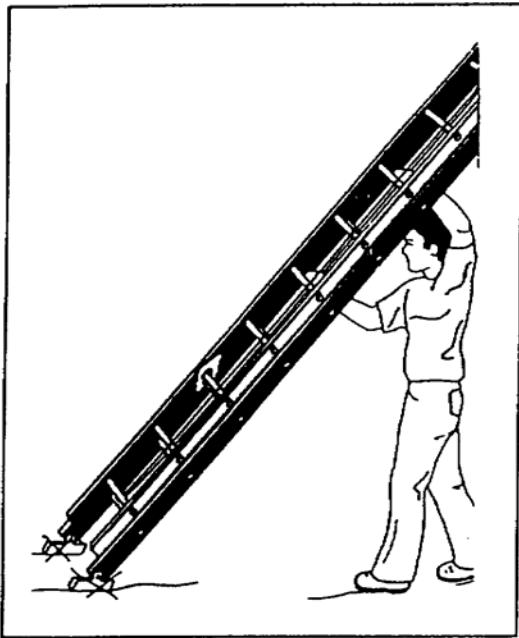
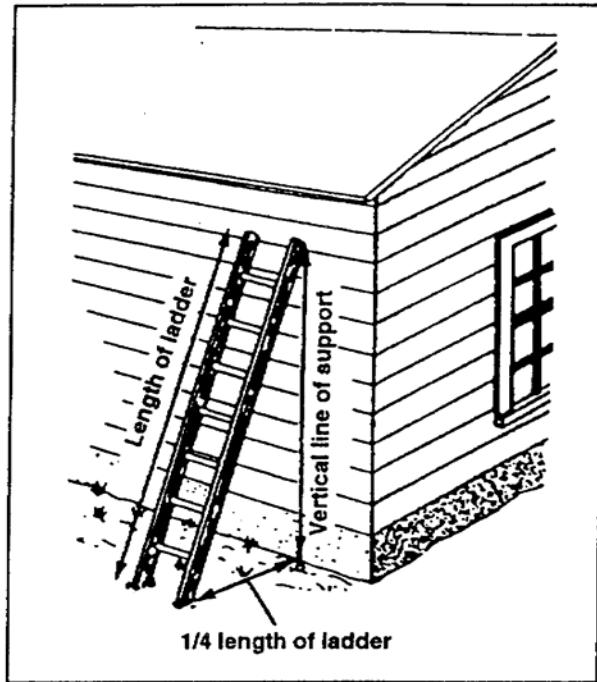
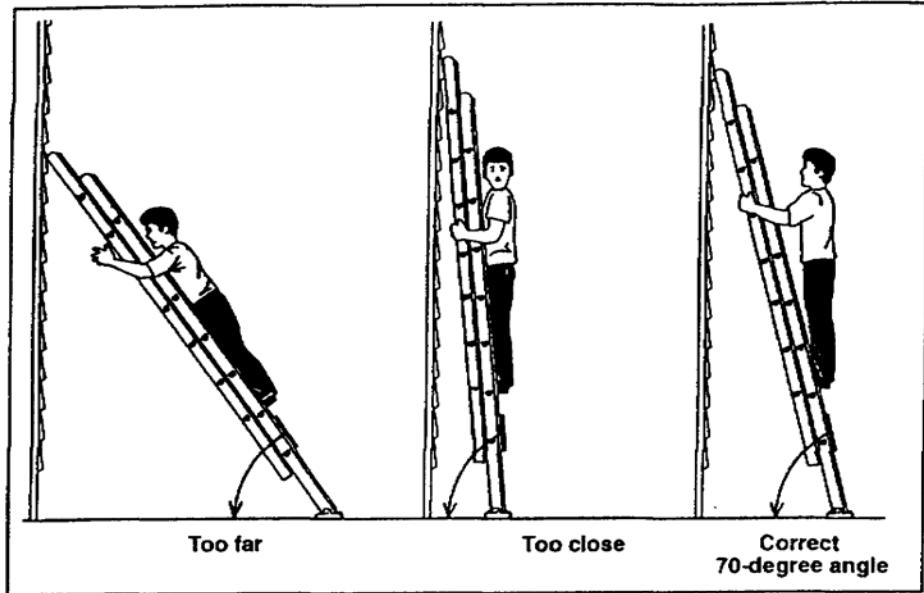

Figure 4-3. Raising a ladder
Figure 4-4. Placing a ladder properly
Figure 4-5. Getting the right ladder angle
(1) Selecting a ladder. Ladder selection depends on the height at which you must work. You will work most efficiently in a space not higher than shoulder level nor lower than knee level. The length of a ladder is critical because the area that you can safely reach is limited. Use a ladder that is long enough for you to reach your work without climbing past the third rung from the top of the ladder.
(2) Raising and placing a ladder. To raise a ladder (Figure 4-3), place the ladder base against the foundation of the building, raise the top end of the ladder, and walk under it toward the building. As soon as the ladder is perpendicular, pull the ladder bottom out from the building to a distance of one-fourth of the working length of the ladder (Figure 4-4). If it is necessary for you to get on top of a building, the ladder must extend at least 30 inches above the eaves. The ideal ladder angle is about 70 degrees, this is shown on the far right of Figure 4-5, page 4-4. At this angle, the feet of a 28-foot ladder touches the ground about 72 inches from the wall for every 4 feet of the ladder's height.